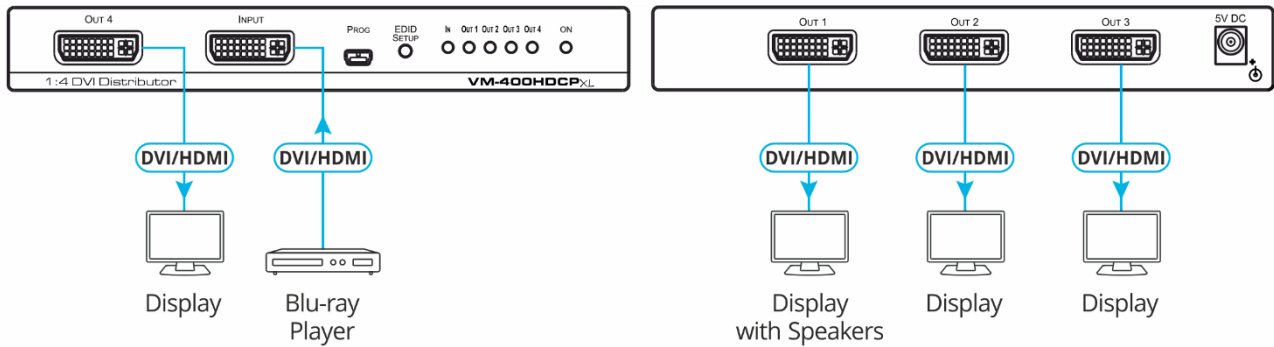

Figure 2: Connecting to the VM-400HDCPxI Rear Panel
To connect VM-400HDCPxI as illustrated in the example in Figure 2:
1. Connect the DVI source (for example, a Blu-ray player) to the DVI Input connector ② on the front panel.
2. Connect the DVI outputs ① to up to four DVI acceptors (for example, an LCD display).
3. Connect the power adapter to VM-400HDCPxI and to the mains electricity (not shown in Figure 2).